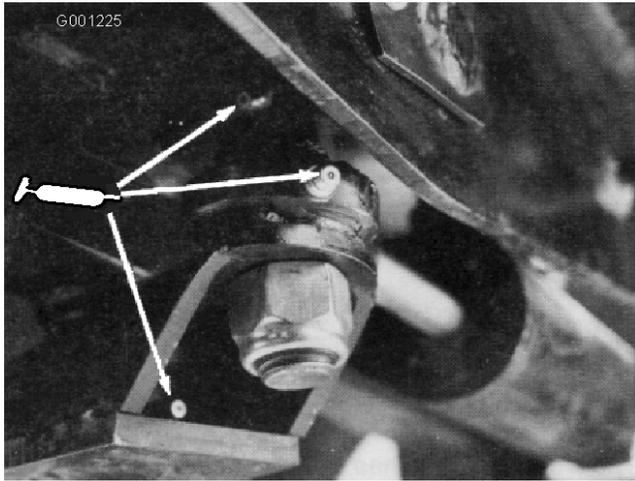

Figure 42
- Steering plate bushings (Figure 42)
- Axle pin bushing (Figure 42)